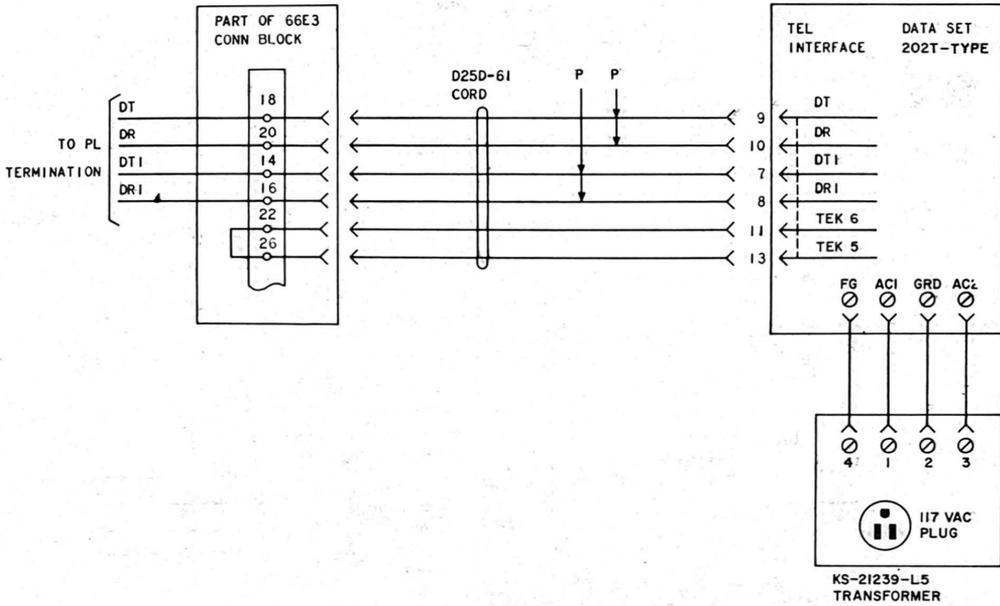

Fig. 11—4-Wire Data Set Connected to Locally Engineered Private Line Termination Without DAS 828- or 829-Type
- Fig. 11—4-Wire Data Set Connected to Locally Engineered Private Line Termination Without DAS 828-Type or 829-Type